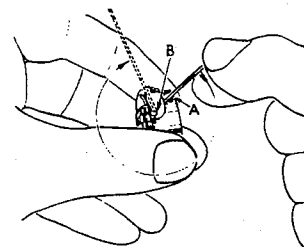

Fig. 9
Place the bobbin in the bobbin case. In one continuous motion with the thumb and forefinger of the right hand draw the bobbin thread through the diagonal slot in bobbin case (A, Fig. 9) under the tension spring and into corner of spring (B). Note the direction of the rotation of the bobbin as the end of the thread is pulled when looking at the bobbin case from the back. The bobbin should rotate counterclockwise.